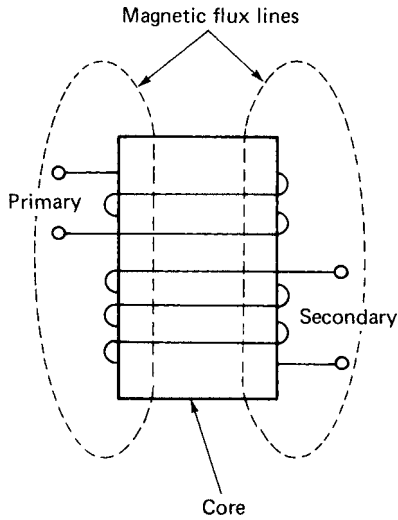

Figure 8-12 Open-core transformer.
1. *Open-core*: This type is used in power transformers (see Fig. 8-12).